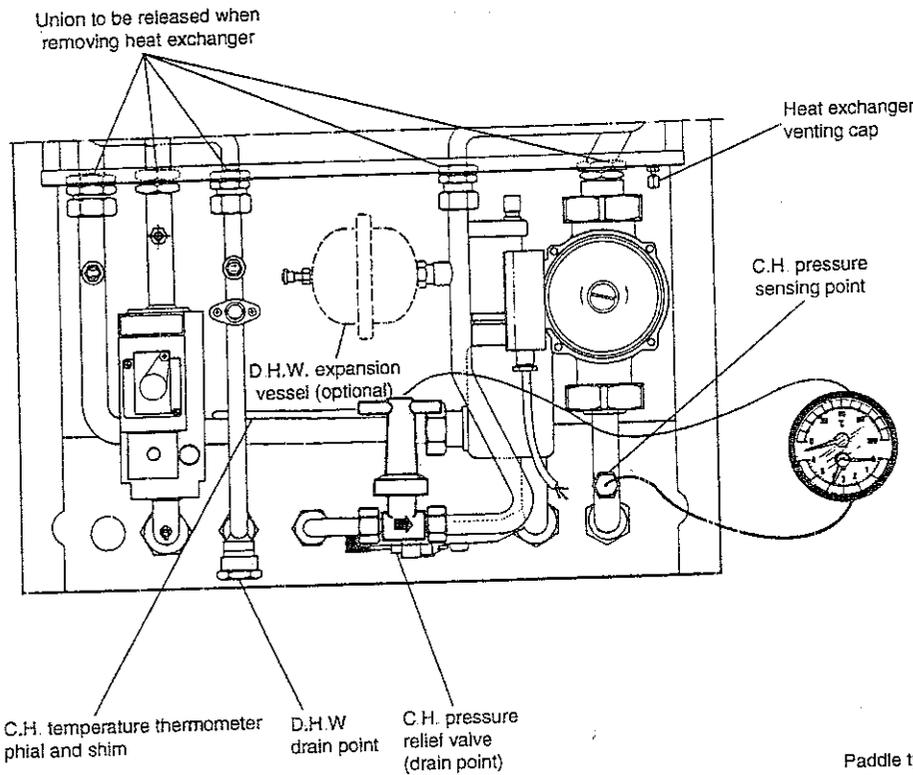

Fig 37
- b) For replacement of parts where water connections are broken, it will be necessary to isolate and drain either or both the central heating or domestic hot water circuits of the boiler only. The cold water mains inlet is isolated at the inlet cock (fig. 1). The D.H.W. is drained via drain cap (fig. 37).
- a) Refer to section 1, items a, b, c, d, f and g (drain D.H.W. only fig. 37).
- b) Remove the shim then the temperature sensing phial from its pocket (fig. 37)
- c) Unscrew the pressure sensor from its housing (fig. 37). (Access from below).
- b) Unscrew the expansion vessel (fig. 37). (Take care not to lose the sealing washer).